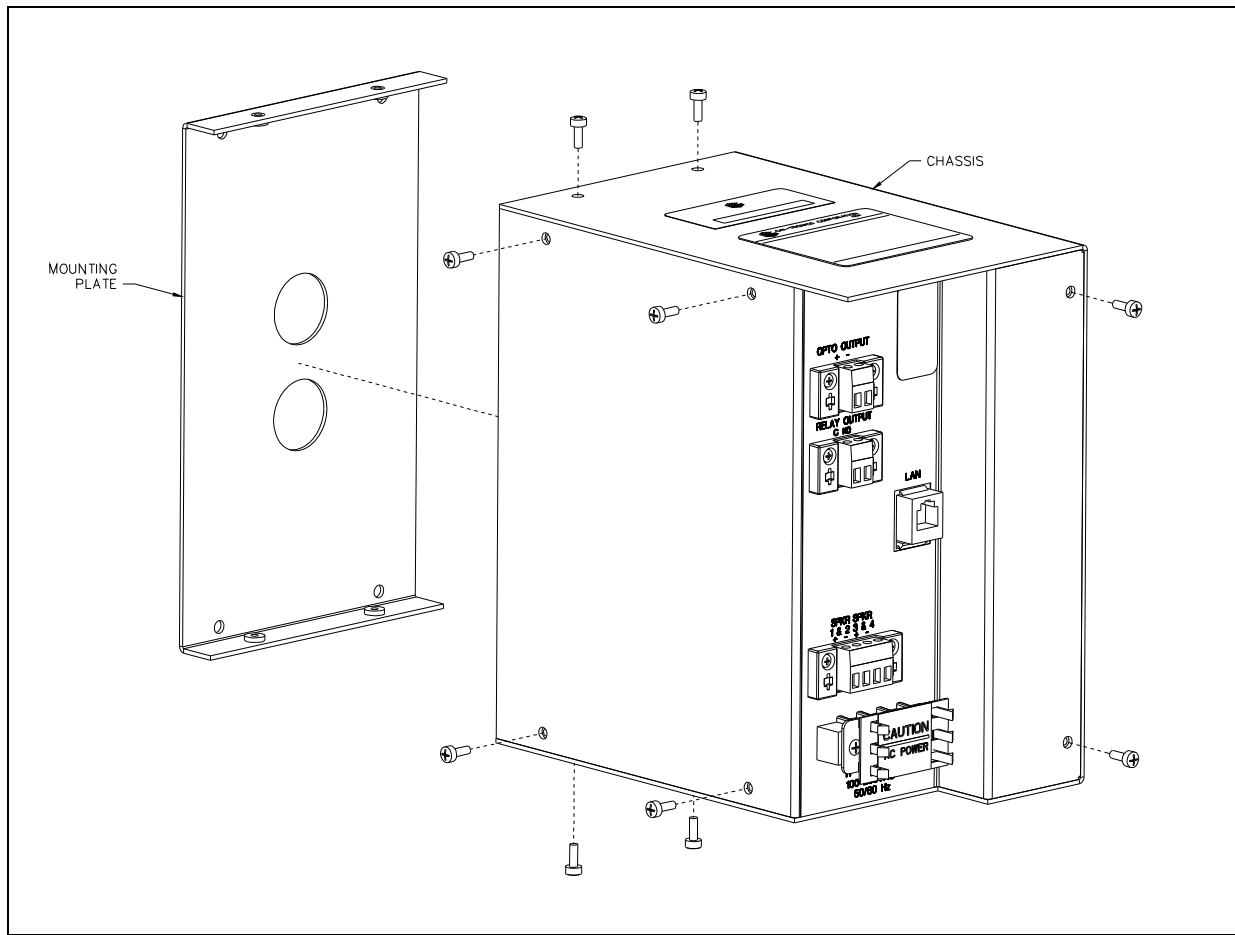

Figure 4: Electronic Paging Module Assembly (Model 10458-701 shown)
3. Remove the six screws holding the chassis together (two on the rear and four on the sides) (see Figure 4).